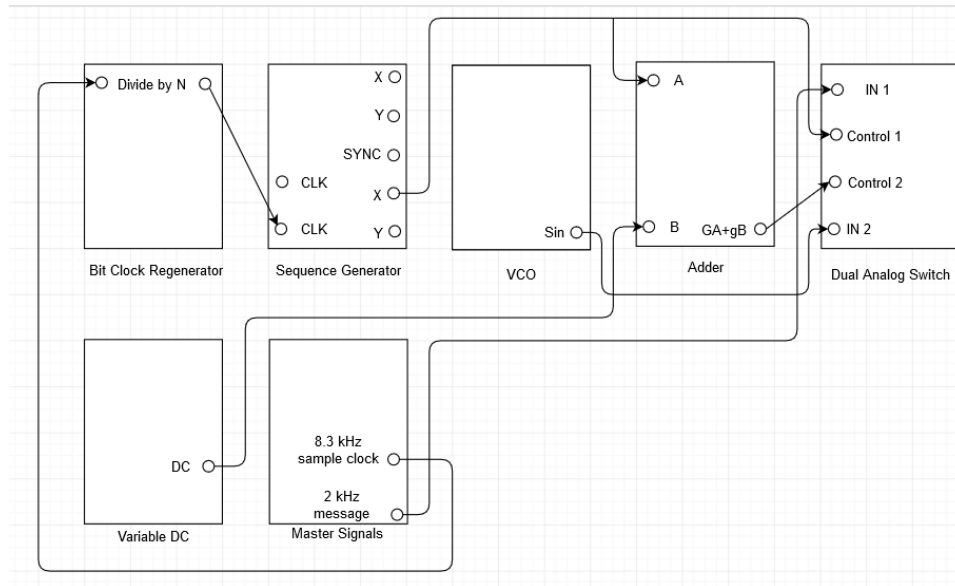

Figure A.6.3: FSK modulator setup.
- iii. Make the modulator setup as shown in the Figure A.6.3.